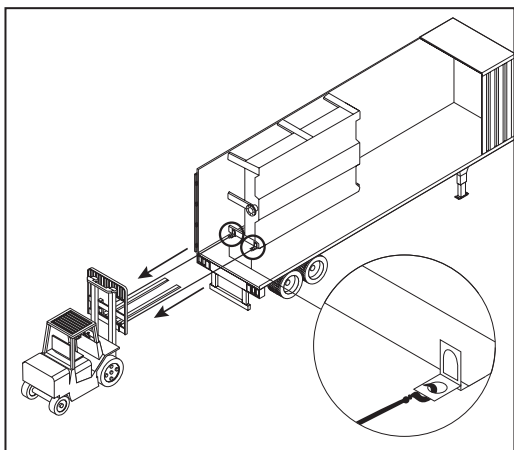

Figure AP-4: Pulling the basin out from a container
D. Some models are shipped in a two-piece body. Basin section is mounted metal skids to protect and facilitate unloading. Use a steel cable to grab the metal skids and drag it to the edge of the container and leave half of basin section inside the container. See Figure AP-4.